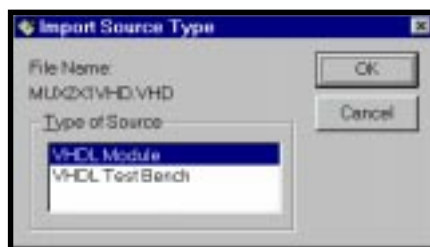

Figure 3-18. Import Source Type Dialog Box
3. The Import Source Type dialog box appears (Figure 3-18). Choose the type of source you want to import into your project, either VHDL Module or VHDL Test Bench, from the Type of Source field. Click **OK**.